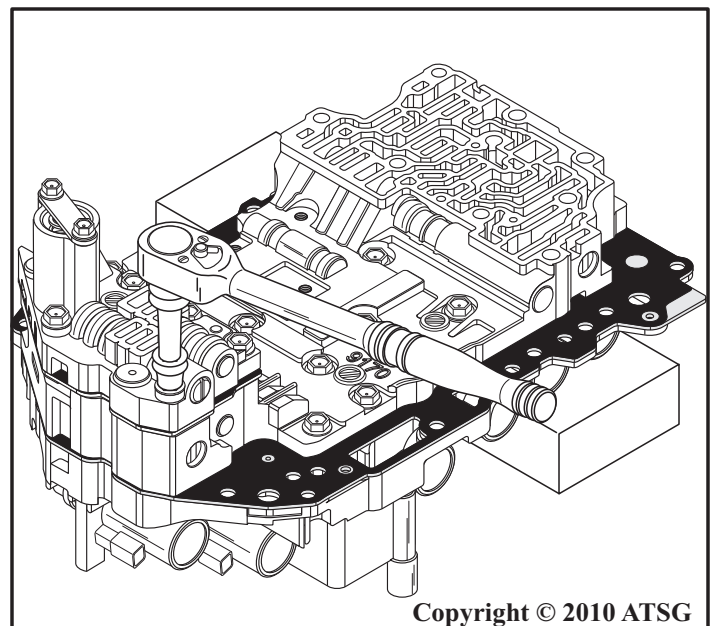

Figure 162
34. Just "snug" the retaining bolts at this time, as shown in Figure 162.